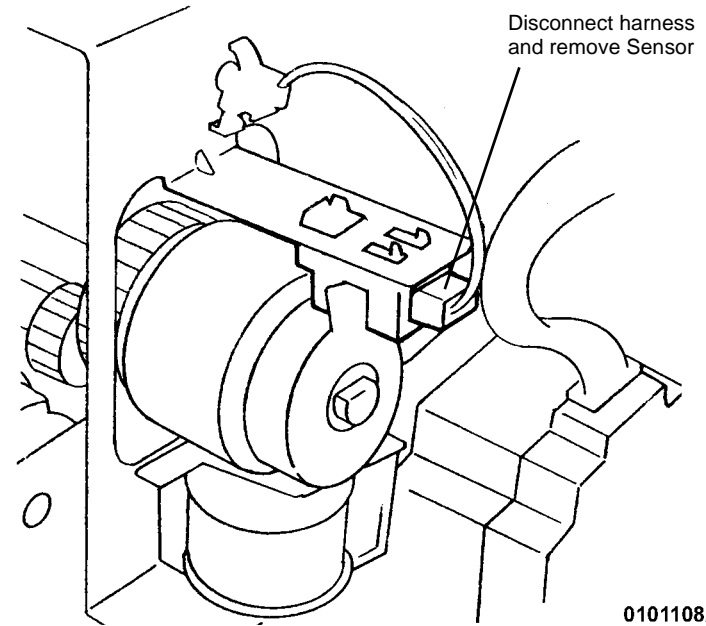

Figure 5 Remove Sensor
6. Remove the Sensor (Figure 5).